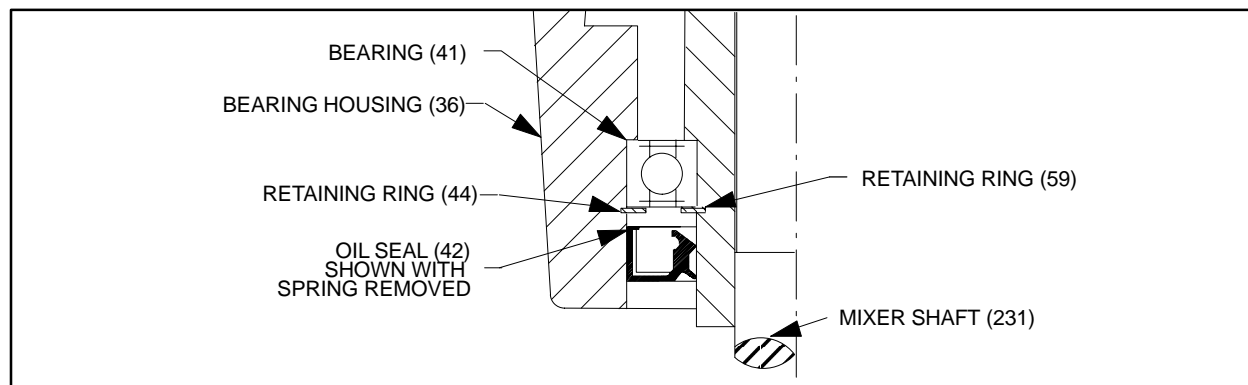

Figure 3– Oil Seal Installation
- b. Install oil seal with lip facing up as shown in Figure 3.
- a. Press the lower bearing (41) onto the drive quill (35) bearing journal. The bearing must seat against the drive quill shaft shoulder with no visible gap.
- b. Install the lower external retaining ring (59).
- c. Press the drive quill assembly into the bearing housing (36) from the bottom until the bearing seats on the housing shoulder.
- d. Install lower retaining ring (44).
- e. Press oil seal (42) in place with the seal cavity facing as shown in Figure 3. Make sure the oil seal has the internal spring removed. This is a non-lubricated seal, and will run hot and have a shortened life if the spring is not removed.
- f. Turn the bearing housing over, support the assembly on the quill shaft (35) and install the upper bearing (45) by pressing it into the bearing housing and onto the quill shaft.
- g. Install the upper retaining ring (59).
- h. Support the bearing housing assembly in an upright position and press the drive quill downward until the bearing (41) shoulders on the retaining ring (59). This will relieve any locked in axial load on the bearing created during assembly.